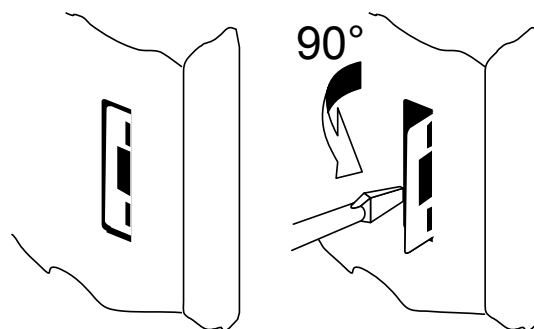

Fig. 1
- 9) When fitting the front access panel use a screw driver to bend out the tab retaining slots to 90° as shown in Fig. 1.